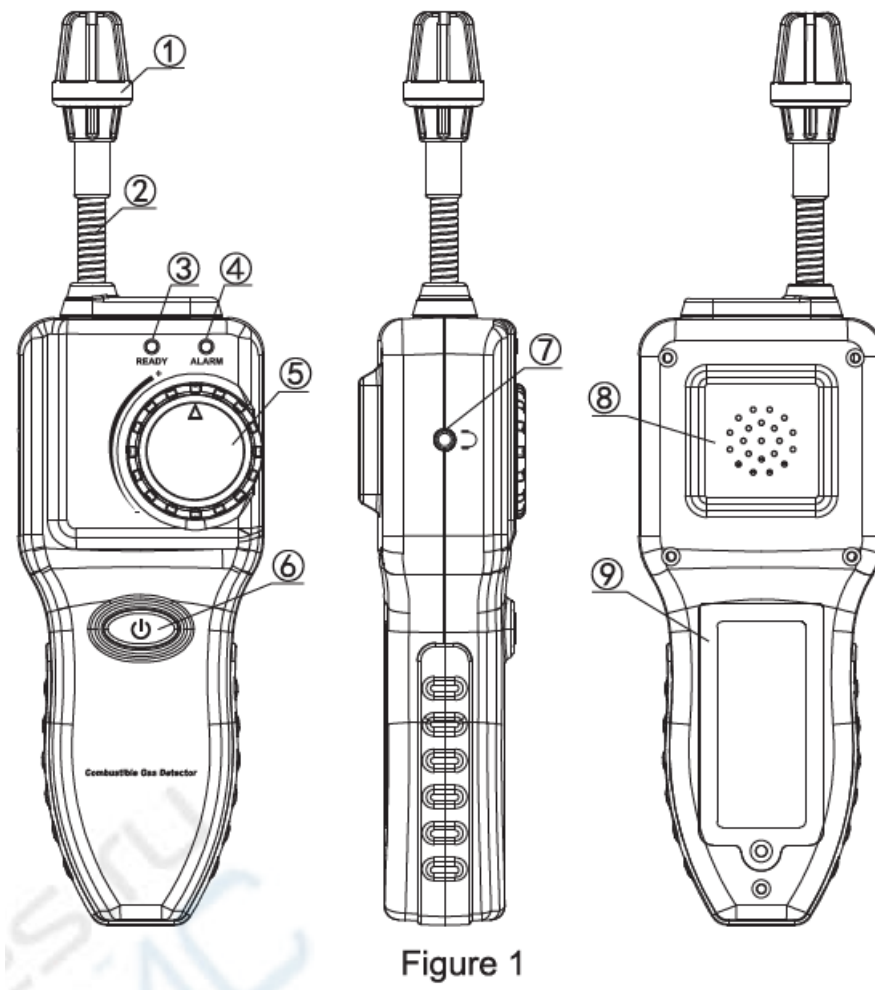

Figure 1
- 1.4 Name of arts (Figure 1)
Name of parts (Figure 1)